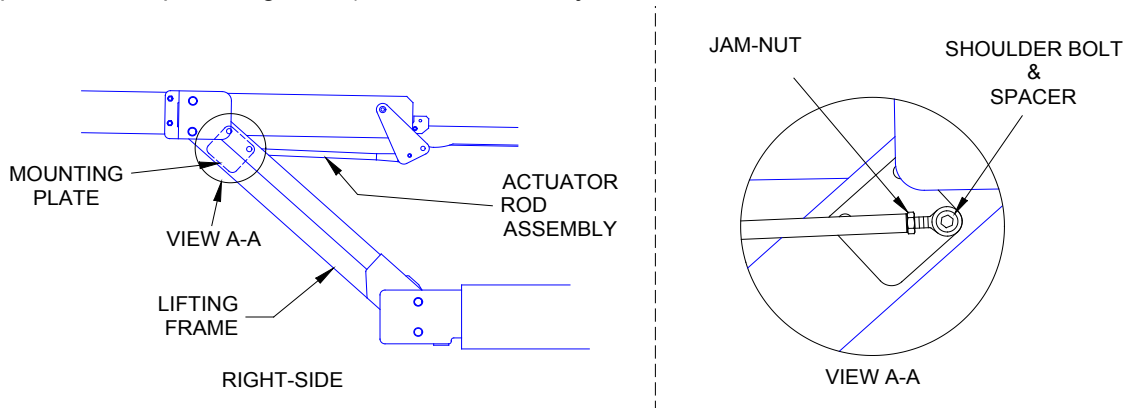

FIGURE 4-32: BRIDGEPLATE ACTUATOR ROD REMOVAL
- c. Raise platform to vehicle floor height using control pendant (UP), and then support.
- e. Refer to **Figure 4-32**. View A-A is from beneath platform. Locate RH actuator rod assembly (RH side of platform, at top of lifting frame). Loosen rod-end jam-nut.